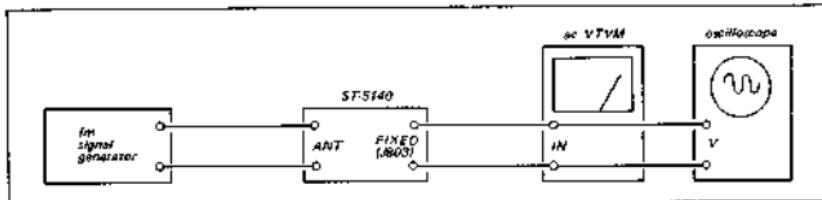

Fig. 3-2. *I-f, muting and frequency coverage alignment test setup*
1. With the equipment connected as shown in Fig. 3-2, set the signal generator's controls as follows:
1. With the equipment connected as shown in Fig. 3-2, set the tuner's controls as follows:
2. Connect the equipment as shown in Fig. 3-2.